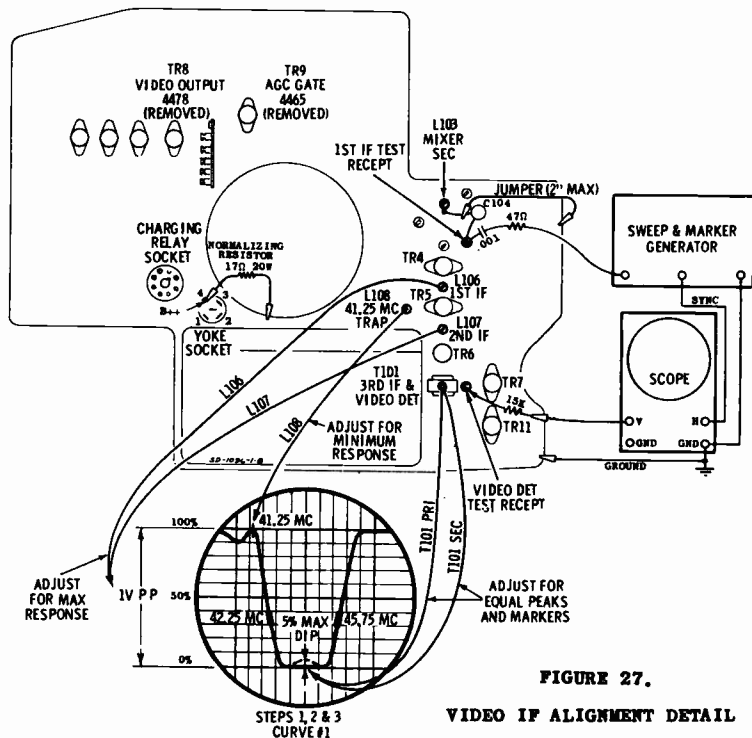
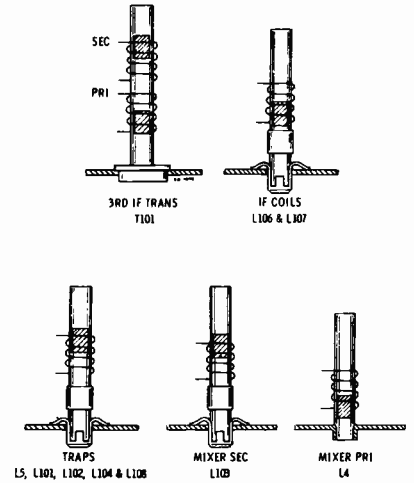

FIGURE 27. VIDEO IF ALIGNMENT DETAIL
FIGURE 30. COIL CORE POSITIONS
10. Refer to Video IF, Trap and Mixer Alignment Details (Figs. 27, 28 and 29) for component and test point locations, and Coil Core Positions Detail (Fig. 30) for core locations in relation to chassis.
VIDEO IF ALIGNMENT (Refer to Figure 27)